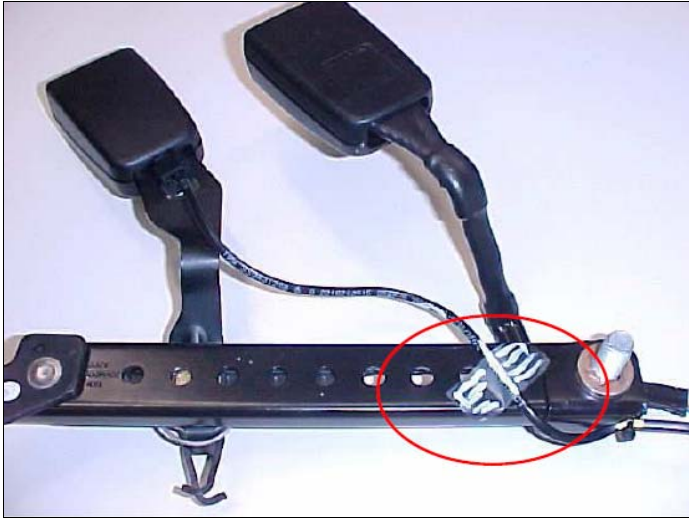

Figure 1 – Wiring secured with fabric tape P-B-91.40/115
2. Secure the wiring on the replacement buckle using fabric tape as shown in (Figure 1).